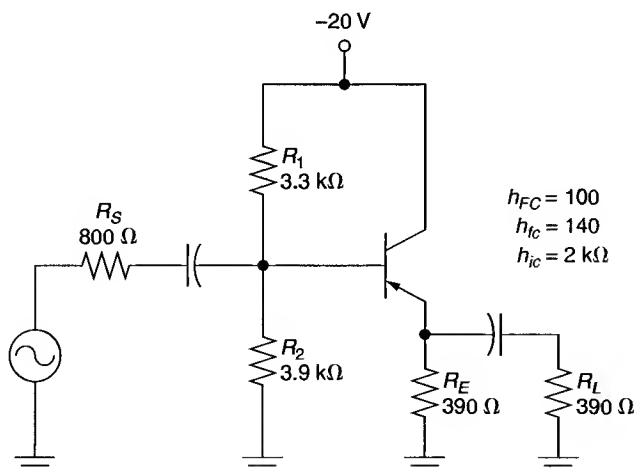

FIGURE 10.23
12. Calculate the gain and impedance values for the circuit in Figure 10.23.